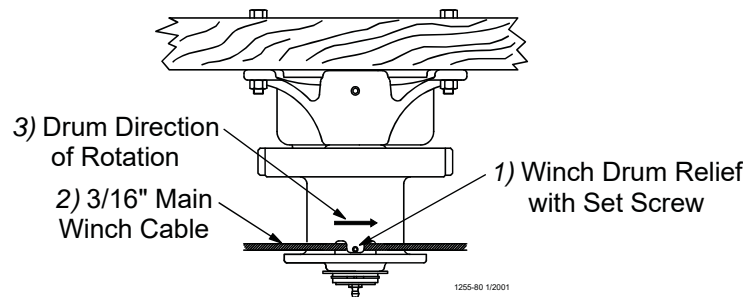

Figure 14. Attach cable to winch
2. Route the cable through the winch drum relief located near the bottom of the drum. Tighten the set screw to anchor the cable to the drum, see **Figure 14.**